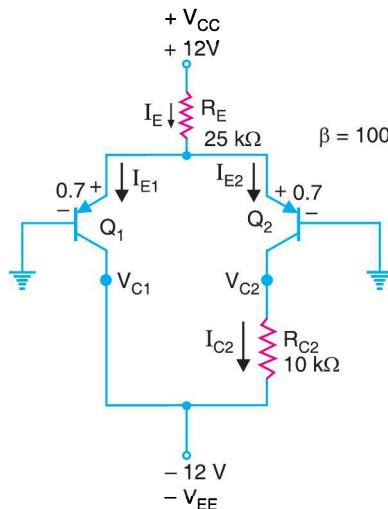

Fig. 25.19
**Example 25.10.** Fig. 25.19 shows a differential amplifier constructed with pnp transistors. Find the bias currents and voltages.